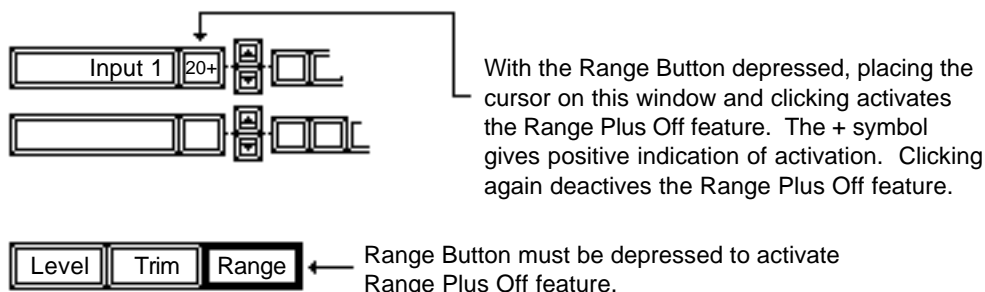

Figure 30
**Range Plus Off:** It may sometimes be desirable to limit the range of a remote control, but still give it full-off capability. The Range Plus Off feature does just that. After the range has been set to the desired limits, activating the Range Plus Off feature will add one more step to the remote control, -99dB, or full-off. Figure 30 on the following page details activation of the Range Plus Off Feature: